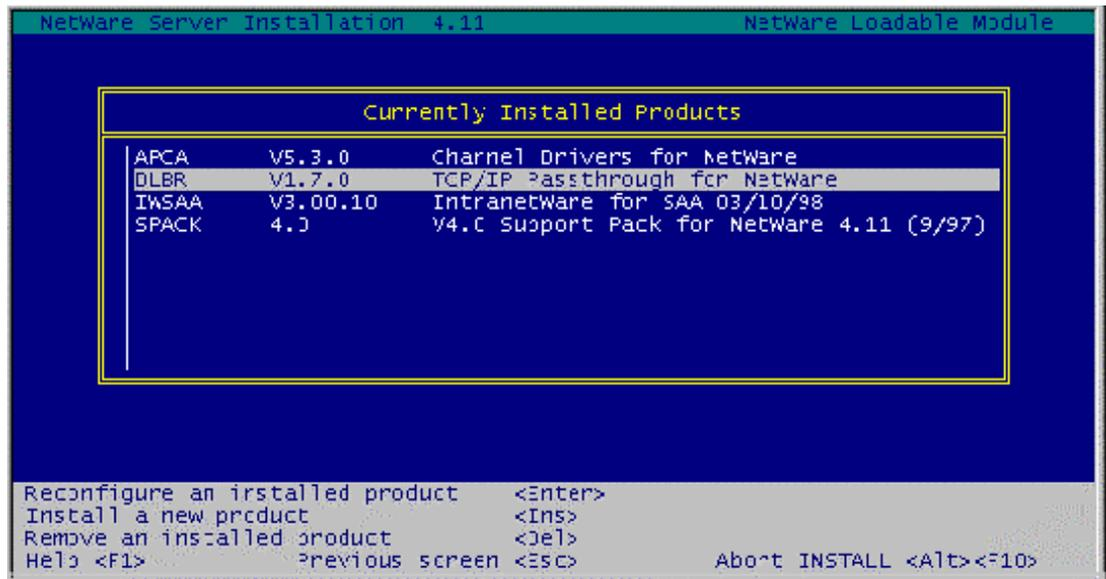

Figure 11-7. Installed Product List
6. Press <Enter> to display a list of the installed products on the server; now including TCP/IP Passthrough (Figure 11-7).